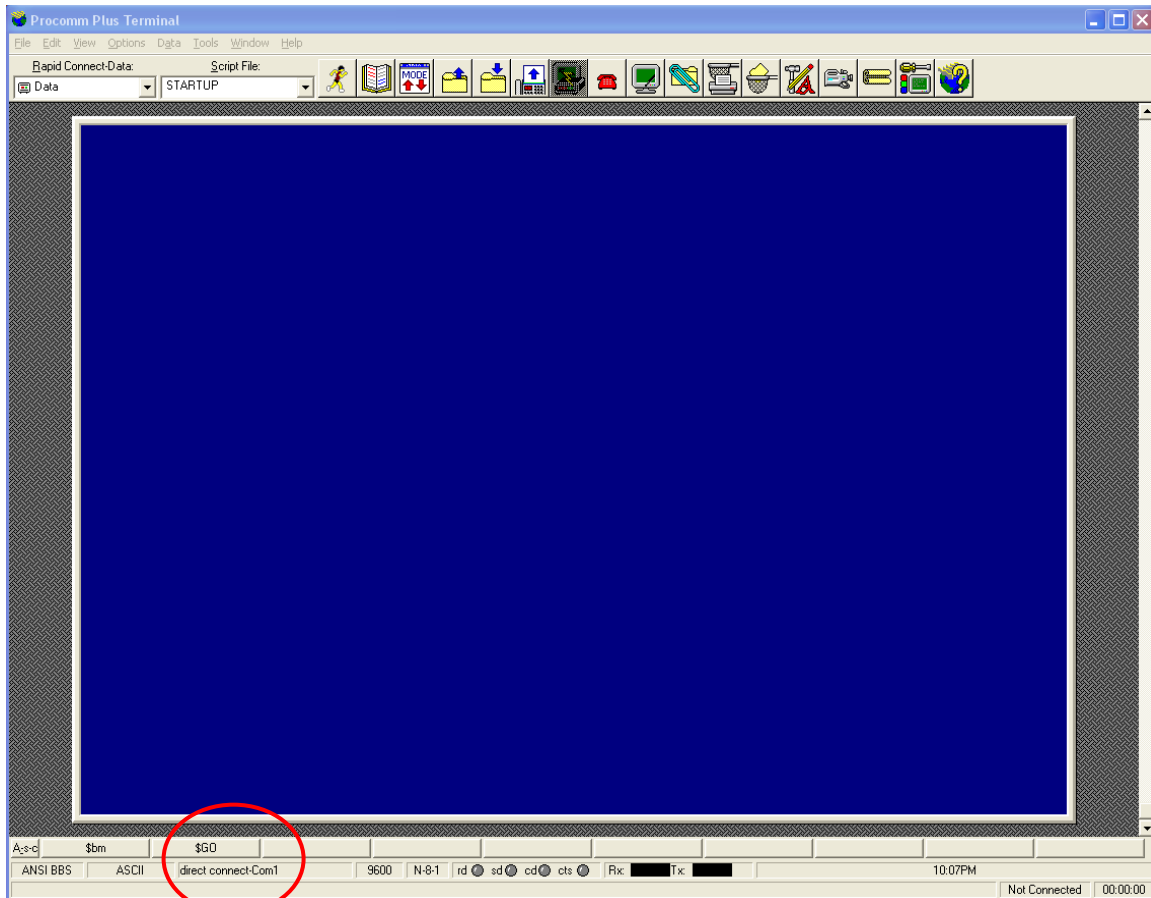

Figure 28
1. Connect the computer to the sensor via an RS232 cable. Start Procomm and set the system to use Direct Connect COM 1 (bottom left of screen) using a baud rate of 9600, 8 bits, no parity and 1 stop bit as shown in fig. 28. If your computer does not have a serial port, select the correct port in Procomm for the USB port that has the serial adapter.